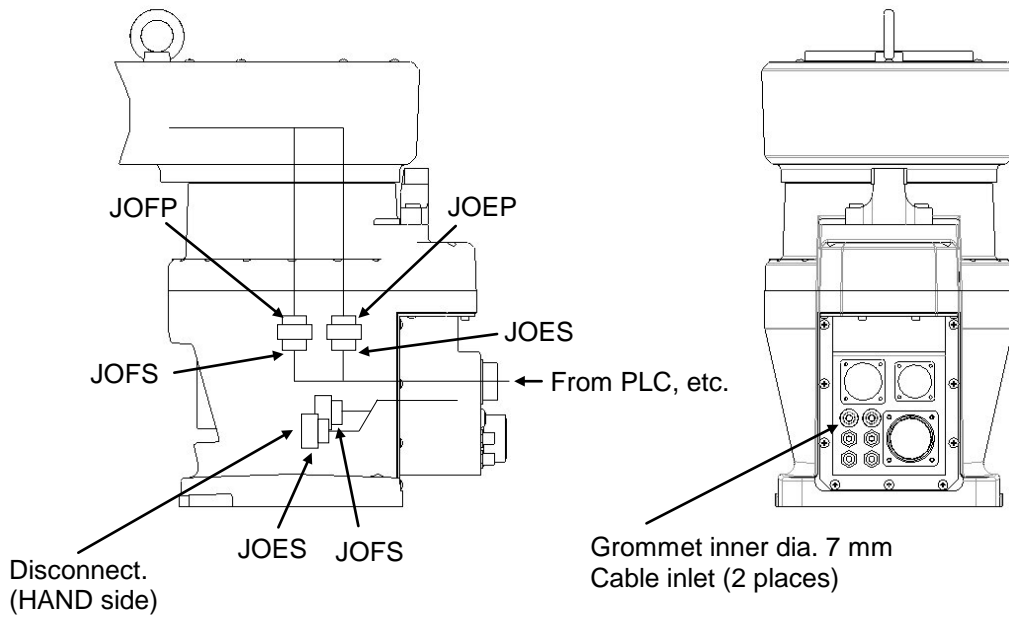

Fig. 5.2 Wiring to PLC, etc.
Five (5) input signals are provided for sensors, etc. and four (4) control signals for solenoid valves, etc. A supply power signal of P24V is also provided. They are connected to the controller. The wiring arrangement for these cables is shown in Fig. 5.2. The wires are connected to the connectors on the upper side of the arm 2. The user should provide the following connectors to connect the cables.
When controlling the robot from the sequencer (i.e., programmable ladder controller: PLC), etc. installed separately, remove the motor cover from the base section, remove connectors **JOES** and **JOFS** on the rear side, then connect the cables running from the PLC, etc. through the cable inlets provided on the motor cover. (See Fig. 5.2.) For ahead of the **JOES** and **JOFS** connectors, the user should prepare the following plug connectors and connect the cables. The current is 1 A or less per cable.